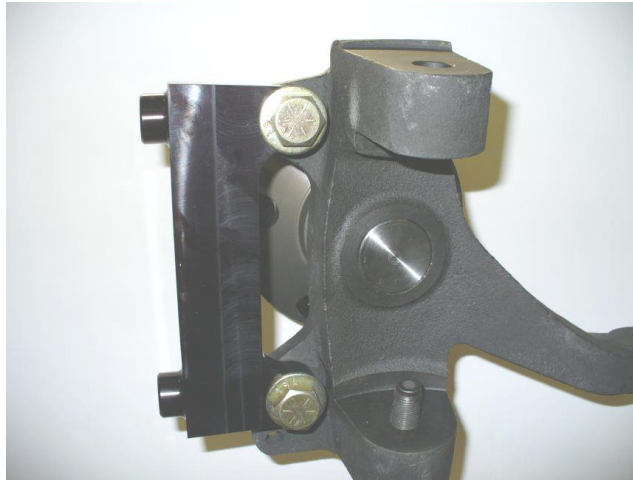

Figure 2 – Caliper Mounting Bracket Installed
3. Provided that the CPP Modular Spindles have already been installed, install the intermediate bracket on the inboard side of the spindle using the supplied 5/8"-18 x 1 1/2" Grade 8 Hex Head Bolts and 5/8" Grade 8 Flat Washers. See the photo below in Figure 2 for reference. The part number engraved in the bracket will face outboard, away from the vehicle. Just tighten these until snug since the caliper centering process will take place in a later step.